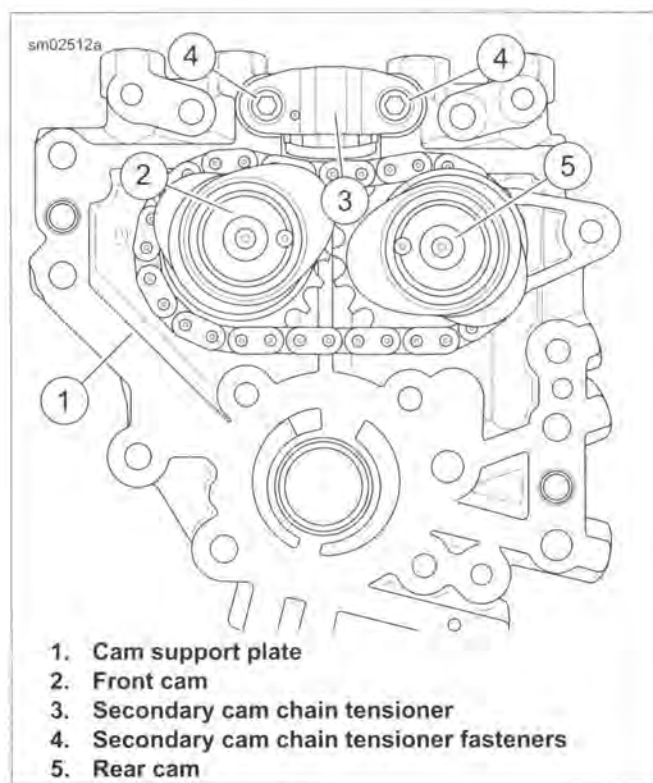

Figure 3-85. Camshafts
1. See Figure 3-85. Remove screws (4). Remove secondary cam chain tensioner (3).